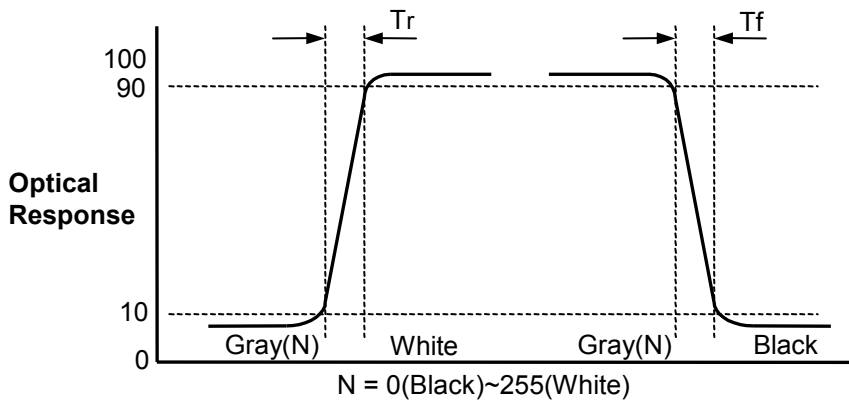

FIG. 3 Response Time
4. Response time is the time required for the display to transit from any gray to white (Rise Time, T_{rR}) and from any gray to black (Decay time, T_{rD}). For additional information see the FIG. 3.